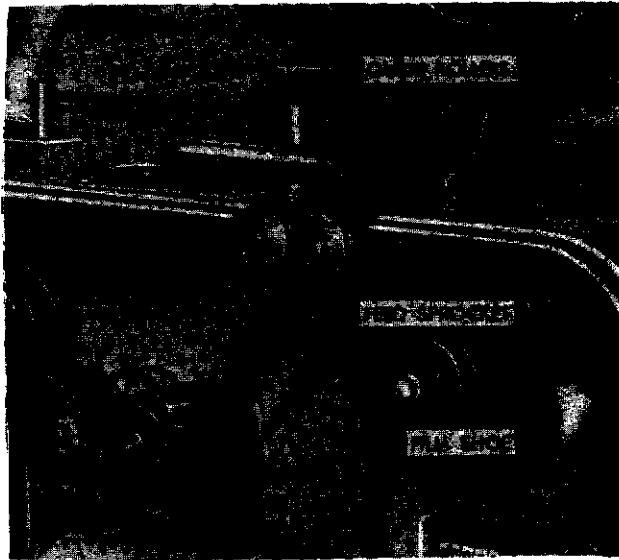

Figure 1-15. Engaging Film with Feed Sprocket
b. Unwind about 4 or 5 feet of film leader from the feed reel. Pass the film between the two film guide rollers at the top of the projector case (figure 1-15). Lower the feed sprocket film shoe away from the feed sprocket, and place the film under the feed sprocket. Make certain that the front perforations engage the sprocket teeth. Push up the feed sprocket film shoe to lock the film in place under the feed sprocket.